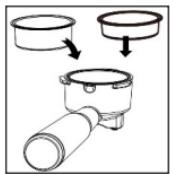

Fig. 5
- Install one of the coffee filters (26) into the filter holder (4) matching the ledge on the filter (26) with the hole on the holder (4) and turn the filter (26) counter-clockwise (fig. 5). Do not add ground coffee into the filter (22) when preparing the coffee maker for work.